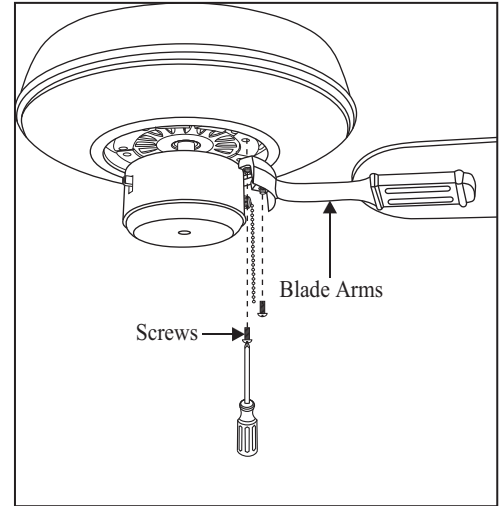

Figure 13
3. Fasten the blade assemblies to the motor housing by lining up the slots of the blade arms with the tabs on the motor housing, then tighten the two screws and washers already installed in the blade arms. (Figure 13)